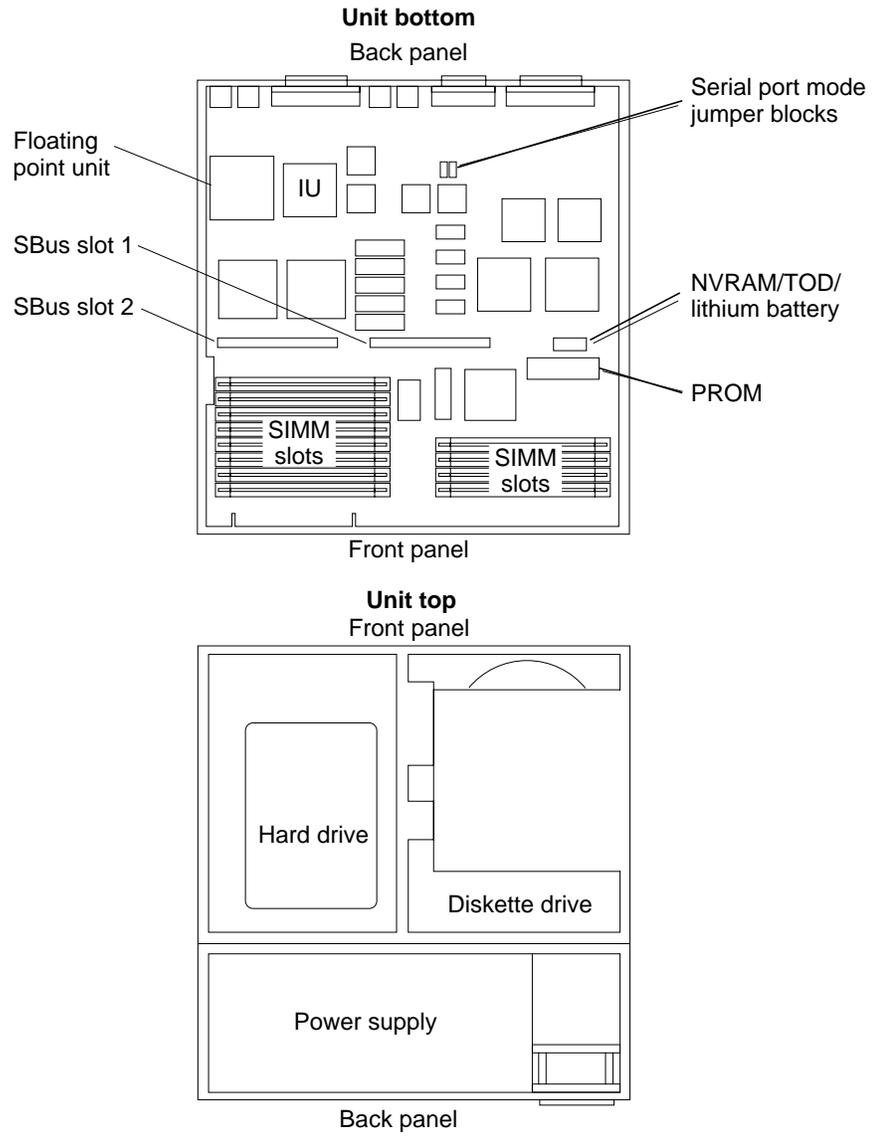

Figure 4-1 Top View of the Unit
Before you attempt to replace or install a new board or module, make sure that you have the right unit. Figure 4-1 shows a top view of the open system unit. Part identification is printed on the part being replaced. Part Numbers are presented in Appendix B.
3. **Locate the SIMM slots on the main logic board (see Figure 4-1).**
3. Locate the SIMM slots on the main logic board (see Figure 4-1).